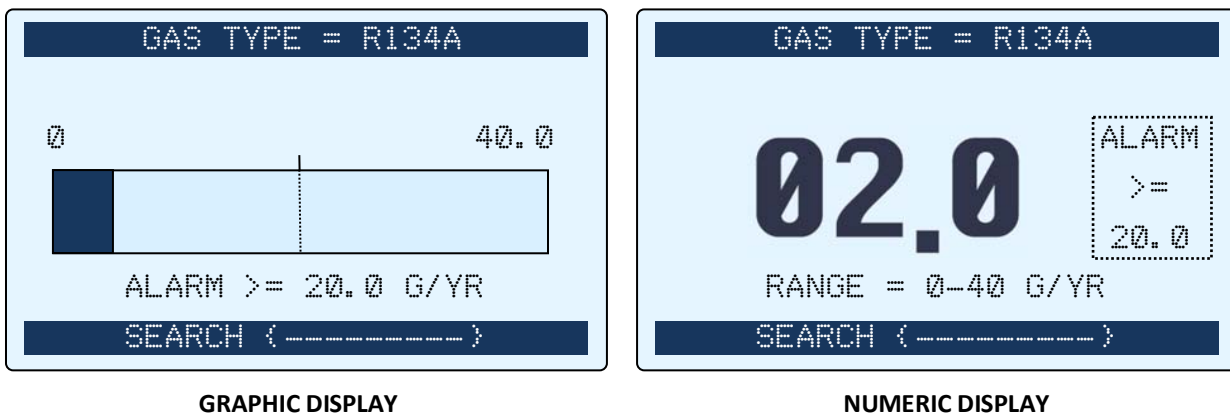

Figure 5-1. Sample Search Mode Screens (Showing Graphic and Numeric Display Styles)
Based on your desired preference, you can choose between two display styles (see Figure 5-1) for the Search Mode screen:
In addition to display style, another option is the ability to change the range for gas readings. This is accomplished using the RANGE button on the front panel and is useful during search mode to better monitor larger swings in detected gas. The range feature is best illustrated using the graphic display style of the Search Mode screen. Note that it contains a hash mark delineating the alarm setpoint (refer to the graphic display style in Figure 5-1).
**NOTE:** When using the graphic display style, the maximum range value is shown above the right-most limit of the bar graph. When using the numeric display style, the maximum range value is shown in text format below the gas reading. Refer to Figure 5-1.